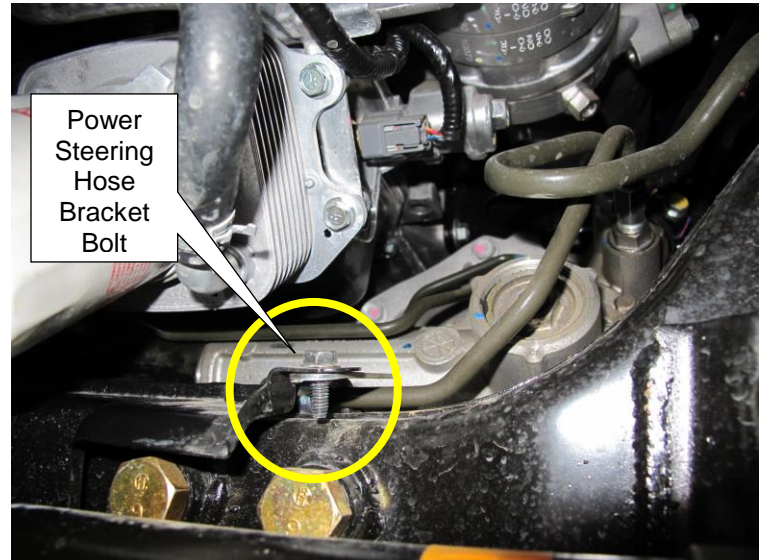

Figure 6
- Remove power steering hose bracket bolt (Figure 6).